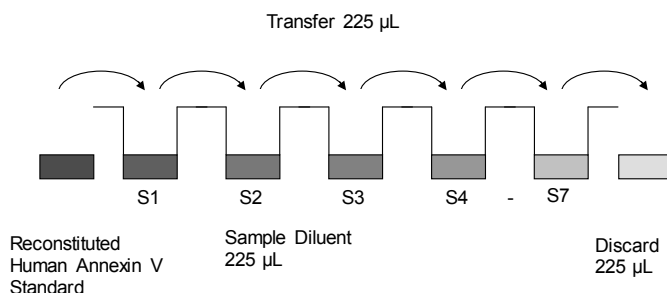

Fig. 6 Dilute standards - tubes
5. Repeat serial dilutions 5 more times thus creating the points of the standard curve (see Figure 6).